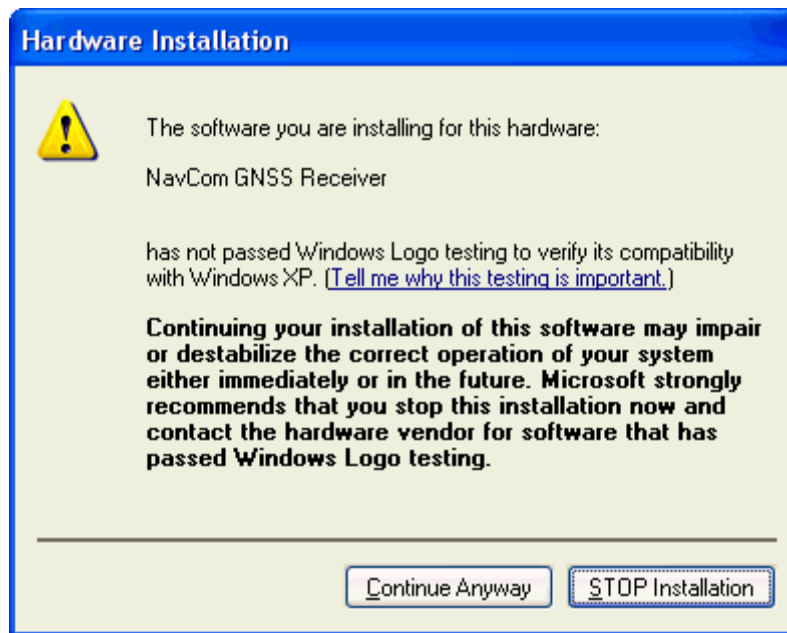

Figure 8: Software Installation Warning Message
7. On the installation warning message, click the *Continue Anyway* button (see Figure 8).